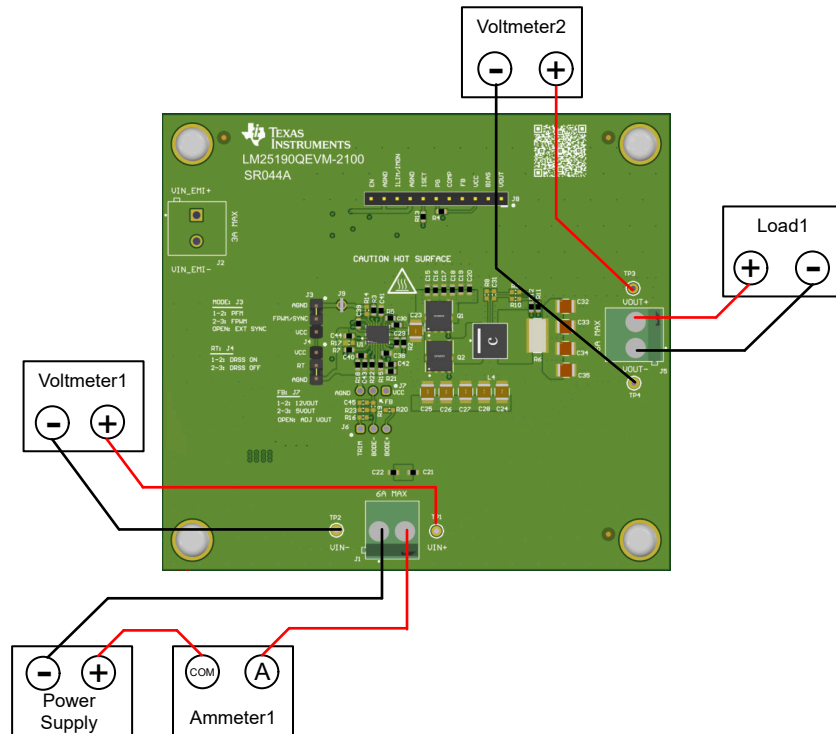

Figure 2-1. EVM Test Setup
The recommended test setup is shown in Figure 2-1. Working at an ESD-protected workstation, make sure that any wrist straps, boot straps, or mats are connected and referencing the user to earth ground before handling the EVM.
1. Prior to connecting the input power source, set the current limit of the input supply to 0.1A maximum. Make sure the input source is initially set to 0V and connected to the J1 terminal as shown in Figure 2-1.